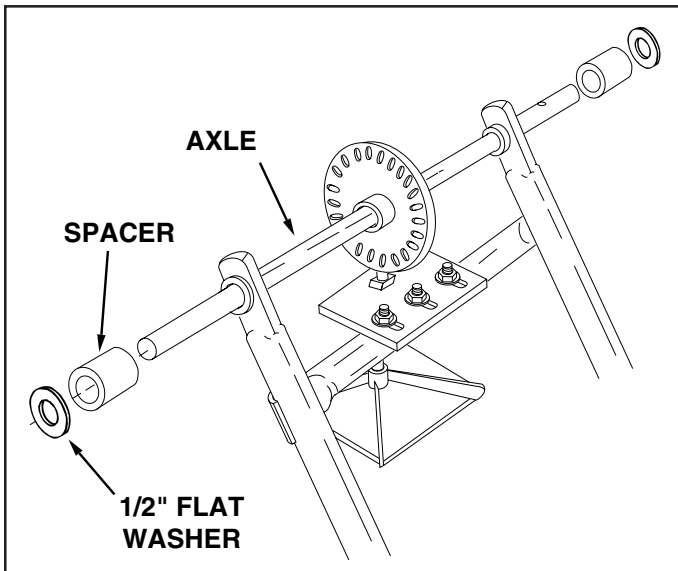

FIGURE 3
2. With the spreader resting upside down on the top of the hopper, assemble a spacer and then a 1/2" flat washer onto each end of the axle. See figure 3.